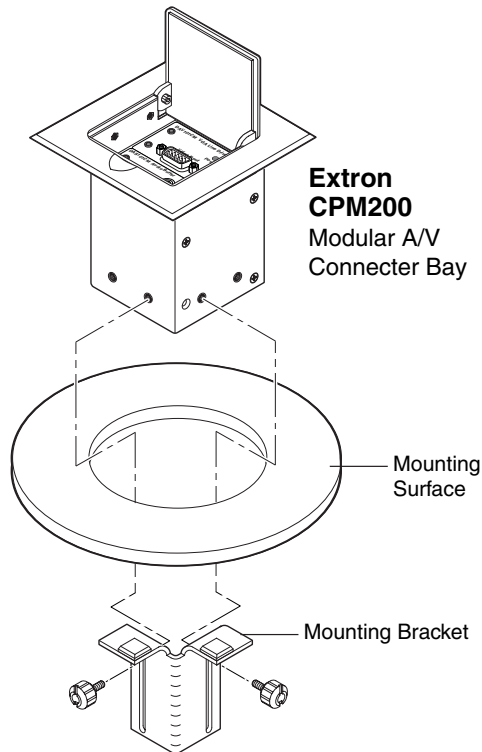

Figure 2-2 — CPM200 enclosure installation
4. From the underside of the table, reinstall the mounting brackets on the enclosure (figure 2-2), then tighten the brackets to secure the enclosure to the surface.